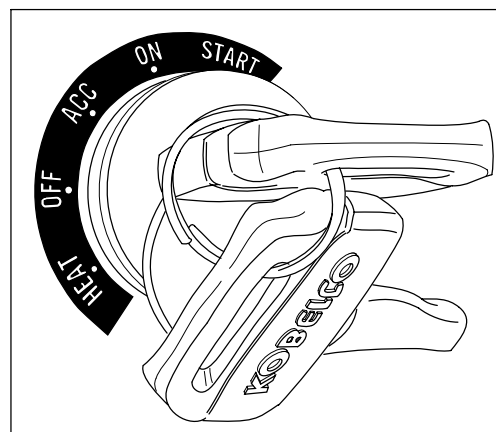

FIGURE 4.5C
1. Turn key switch to “OFF” position. Wait 4 seconds for electrical power to disconnect. See Figure 4.5C.